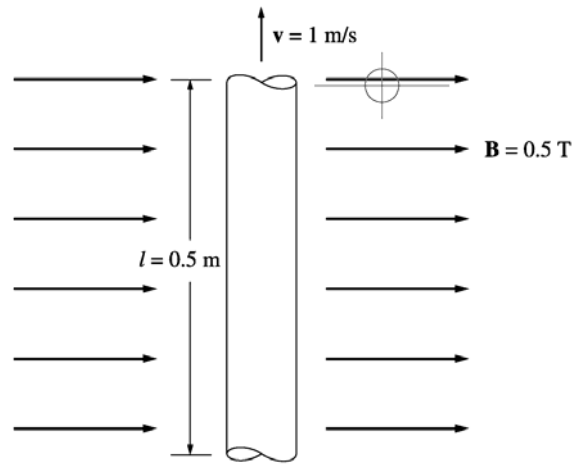

**FIGURE P1-7**
- 1-10.** The wire is shown in Figure P1-7 is moving in the presence of a magnetic field. With the information given in the figure, determine the magnitude and direction of the induced voltage in the wire.